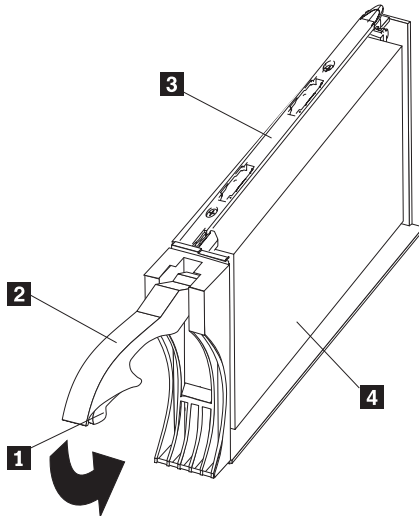

Figure 60. Drive latch on a hot-swap drive
- a. Press on the inside of the bottom of the tray handle to release the blue latch **1**. See Figure 60 on page 78.